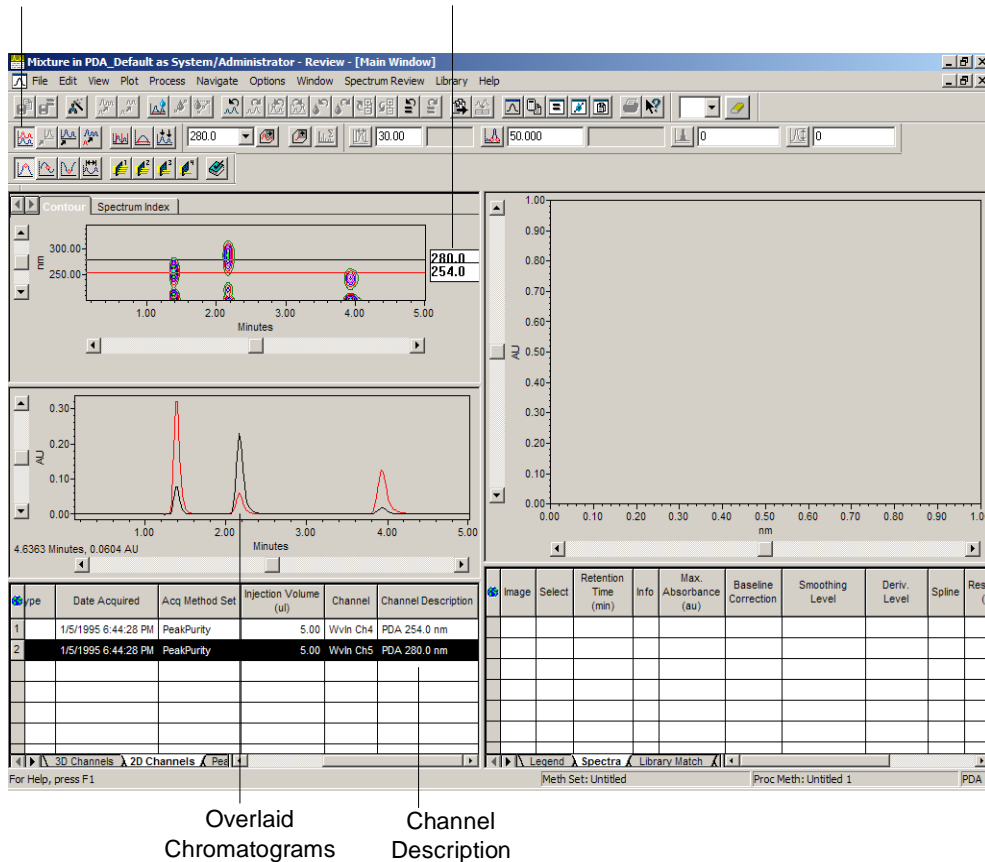

Figure 2-13 Overlaid Chromatograms at Wavelengths 254 and 280 nm
3. To overlay the chromatograms, click  (Overlay) or select **Plot > Overlay**. The overlaid chromatograms appear in the Chromatogram plot as shown in Figure 2-13. The 2D Channels tab lists each extracted chromatogram. The Channel Description field indicates the extracted wavelength (you might need to scroll to the right side of the table to see this field).